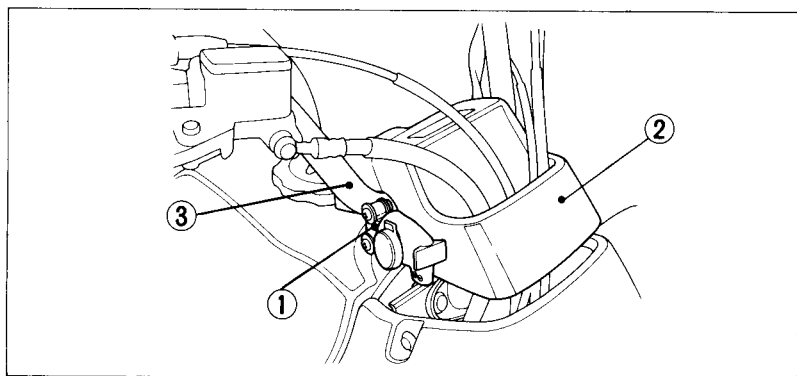

Fig. 2-29
The DC receptacle (Fig. 2-29) is attached to the right handlebar, near the handlebar cover (2). The receptacle provides 12 V DC power at a maximum of 180 watts (15 amps). If you exceed this limit, you may blow the fuse. (For information on fuses, and how to replace a fuse, see pages 117–118.)